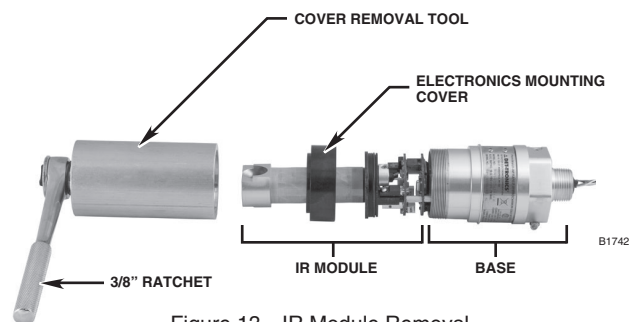

Figure 13—IR Module Removal
- Slide the electronics mounting cover away from the base and pull the IR module out of the base as shown in Figure 13.